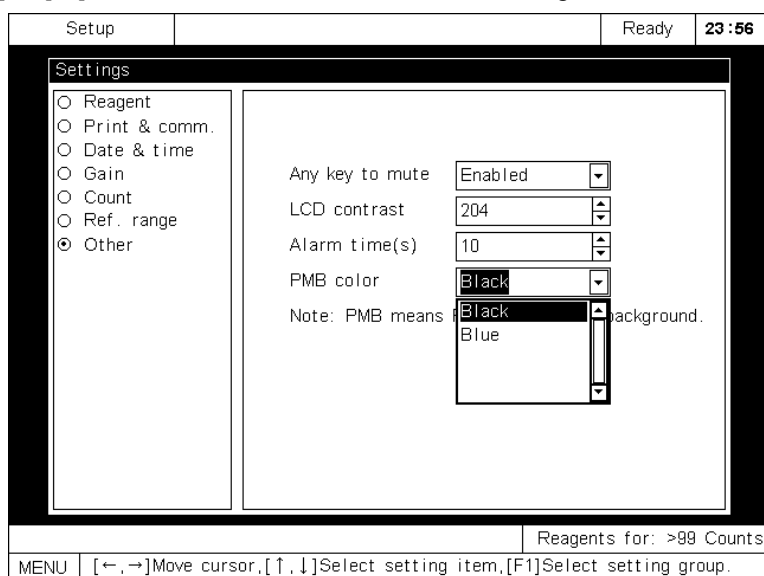

Figure 7-39 Setting PBM color
- Press [] or [] to move the cursor to **PBM color**, as Figure 7-39 shows.